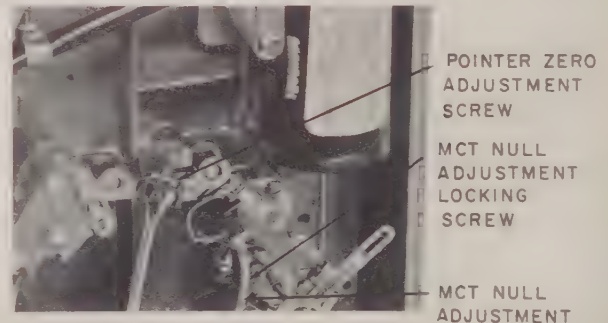

FIGURE 12 - MCT Null Adjustment
b. If Receiver reading is incorrect, loosen MCT null adjustment locking screw (Figure 12) and turn MCT null adjustment until Receiver reads 50% chart. Tighten locking screw.
NOTE: Check Transmitter indicating pointer reading. If pointer does not read within one scale division of 50% scale, turn pointer zero adjustment screw (Figure 12) until pointer reads about 50% scale. This adjustment is not part of the Transmitting Mechanism calibration, but prevents incorrect readings caused by the pointer hitting the mounting bosses.
d. Apply midrange pressure to Bourdon tube. If Receiver does not read midrange pressure, loosen Transmitter MCT null locking screw and turn MCT null adjustment screw (Figure 12) to obtain correct reading. Tighten locking screw.